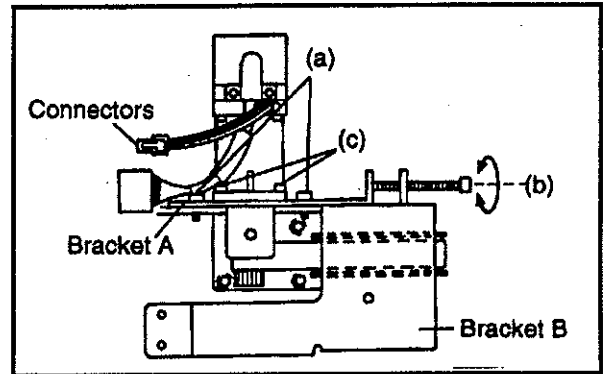

FIG.2
- (1) Mount the X motor to bracket A with four retaining screws (c) (Fig.2).
- (2) Set the X motor gear to the belt and temporarily secure brackets A and B with two retaining screws (a) (Fig.2).
- (3) Adjust the belt tension with retaining screw (b) and firmly tighten two retaining screws (c) (Figs. 2 and 3).
- (4) Connect the connectors.